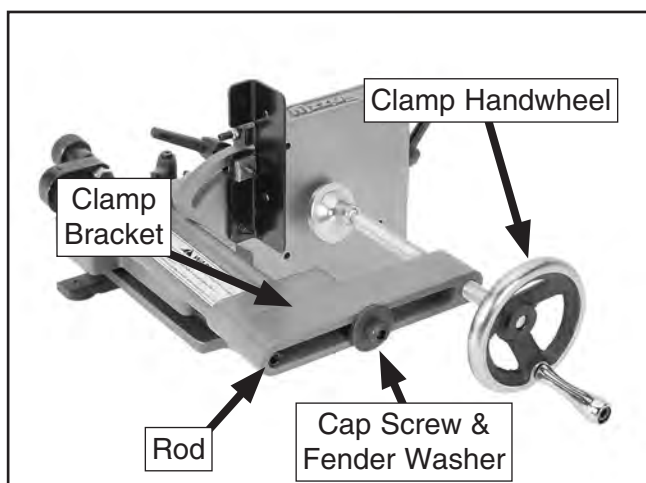

Figure 8. Clamp shoe, bracket, and handwheel installed.
3. Slide the clamp bracket over the rod of the clamp brace, as shown in **Figure 8**, then secure it with the M8-1.25 cap screw and fender washer.
4. Align the set screw in the hub of the handwheel with the flat of the clamp shaft, then slide the handwheel onto the shaft and tighten the set screw (see **Figure 8**).